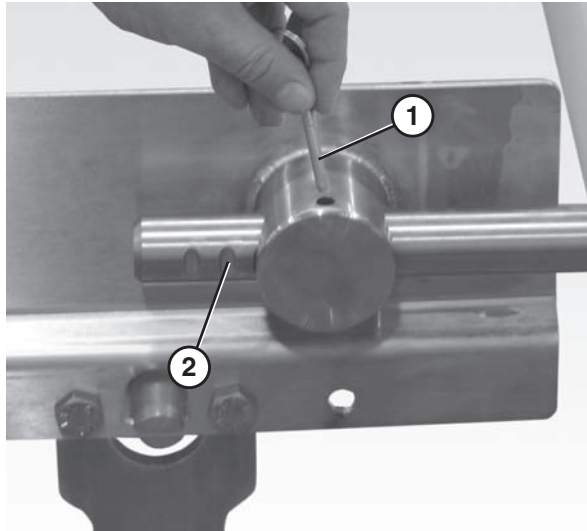

Figure 58
1. Remove both pull pins (Figure 58, item 1) on the tension end of the conveyor.
2. Extend the idler tail to the next groove (Figure 58, item 2) on the bearing shaft.